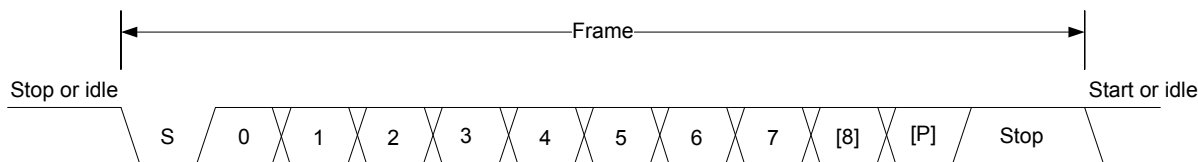

Figure 17.2. LEUART Asynchronous Frame Format
The frame format used by the LEUART consists of a set of data bits in addition to bits for synchronization and optionally a parity bit for error checking. A frame starts with one start-bit (S), where the line is driven low for one bit-period. This signals the start of a frame, and is used for synchronization. Following the start bit are 8 or 9 data bits and an optional parity bit. The data is transmitted with the least significant bit first. Finally, a number of stop-bits, where the line is driven high, end the frame. The frame format is shown in Figure 17.2 LEUART Asynchronous Frame Format on page 550.